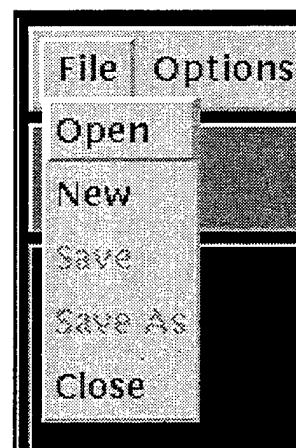

Fig. 40 — Checklist editor:
- Click on *New* from the *File* menu (Fig. 40) in the **Checklist Editor Window**.
- Click on *Open* from the *File* menu (Fig. 40) in the **Checklist Editor Window**.